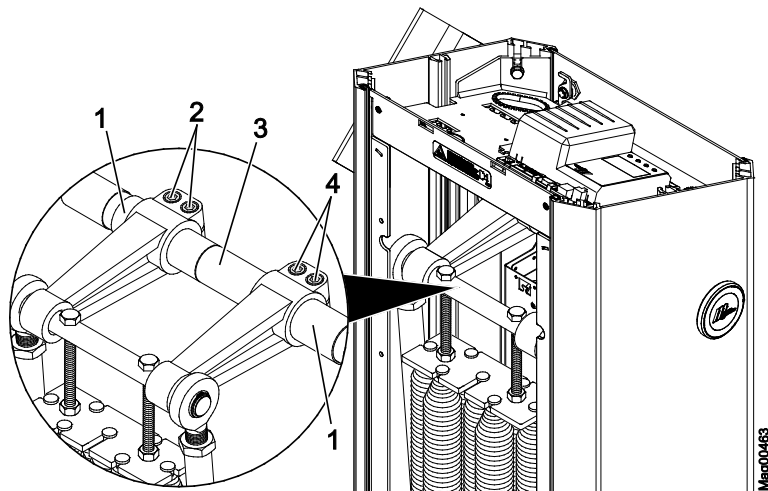

Fig. 35: Access XXL – Loosen hexagon socket screw
- Access XXL: see page 76, Fig. 35.